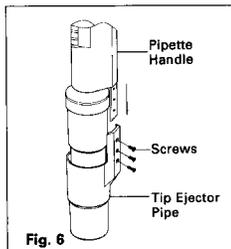

Fig. 6
1. To disconnect the tip ejector pipe, remove the three (3) stainless steel screws by turning counter-clockwise. Gently pull the tip ejector pipe off the end of the pipette. Do not twist the tip ejector pipe during this procedure. (Fig. 6)